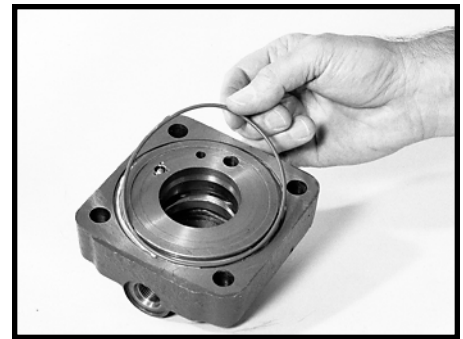

Figure 123
- 20. Apply clean grease to the seal ring groove in valve housing (9) and install a new seal ring (10) into the groove. SEE FIGURE 123. If the unit is equipped with an automatic bleed screw, apply clean grease to a new passage way seal (20E) and install it in the valve housing.